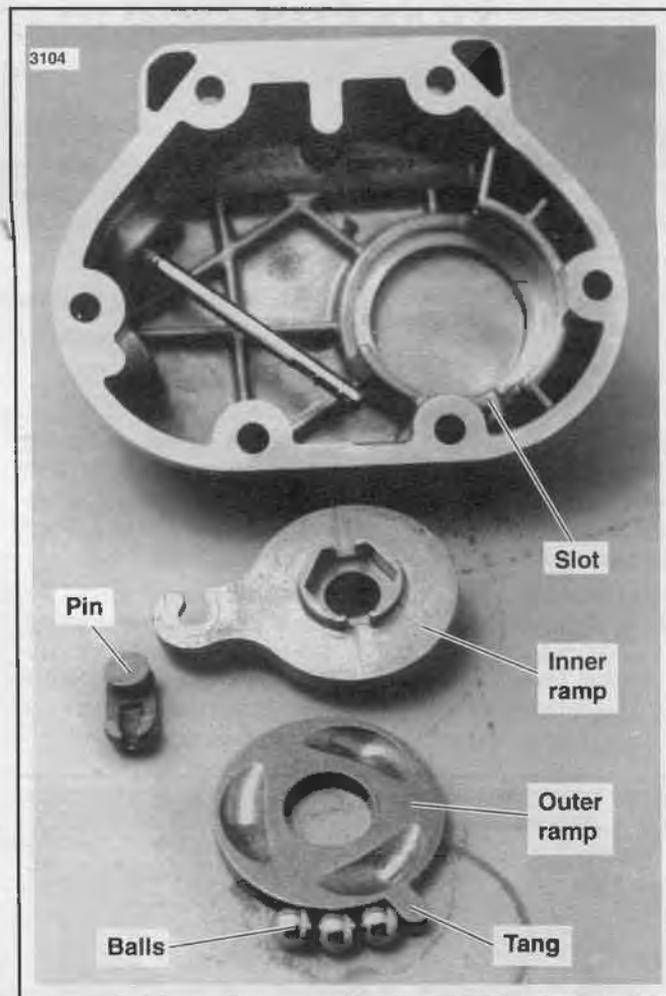

Figure 7-14. Ball and Ramp Mechanism Removed From Clutch Release Cover
2. See Figure 7-14. Place outer ramp in clutch release cover and place balls in slots. Be sure tang is in side cover slot.